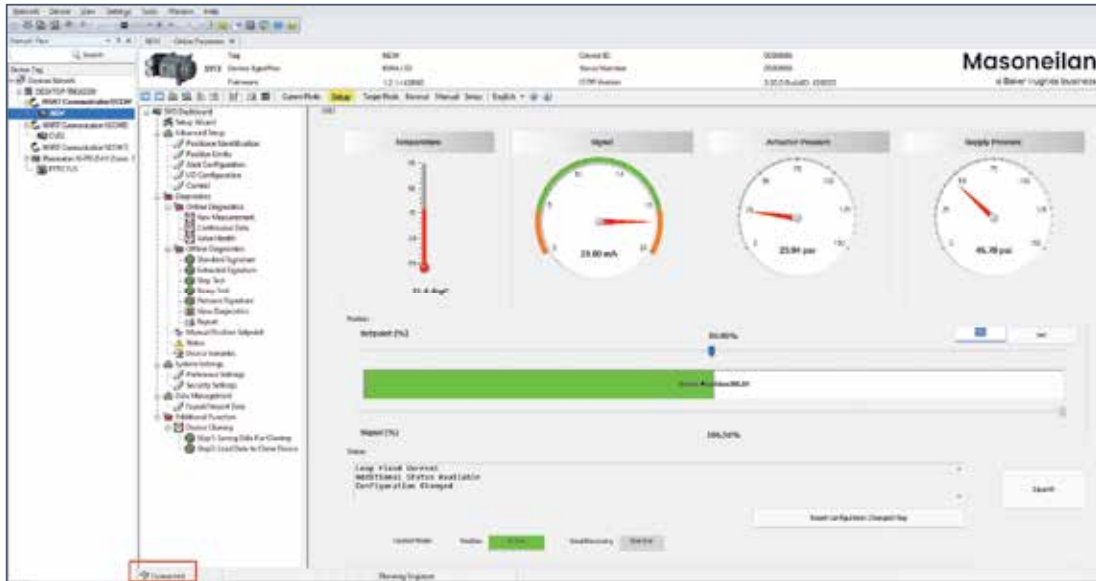

Figure 20 Connected
3. Check that the SVI3 is connected (Figure 20).
4. Click **Upload All Parameters** icon (see red box in Figure 20).